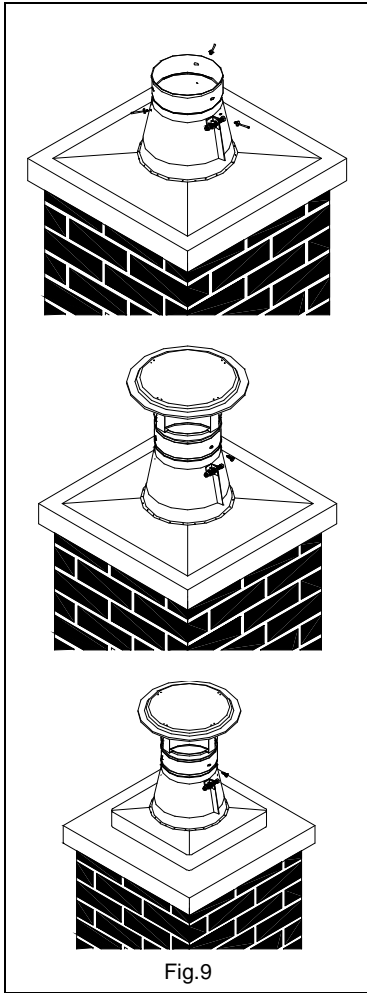

Fig.9
1. Slide the top support plate over the chimney lining and place it on the top of the crown or flue tile. If you are mounting to a flue tile you may wish to trim the support plate to fit (Fig.9).
For Rigid Liner: Slide the top support collar down until it rests on the top support plate and tighten it firmly. Be sure to fasten the support collar to the lining with the stainless steel rivets provided (Fig.9). As mentioned at the beginning of this manual in section "General", choose your lengths not to exceed 6 inches above the collar of the top support.